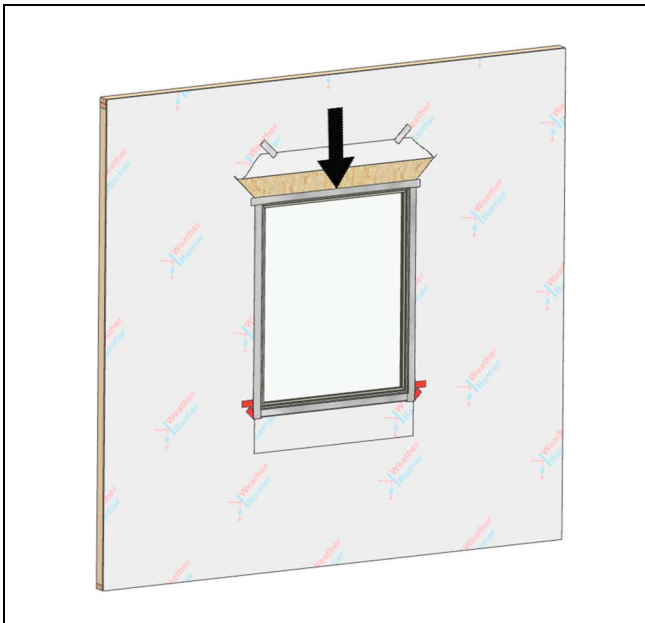

Figure 23
3. Install another layer of adhesive membrane lapping onto the head jamb of the unit and over the sheathing. The membrane flashing at the head jamb should extend and cover the flashing previously installed at the jambs. See Figure 23.